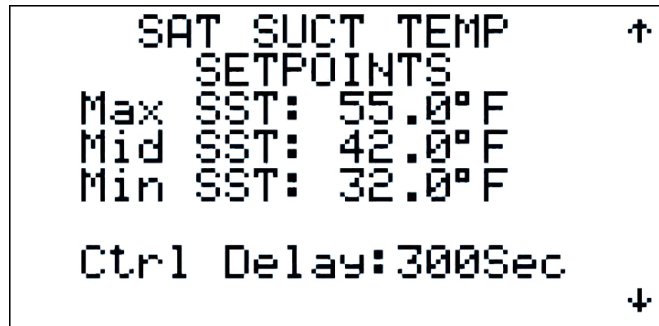
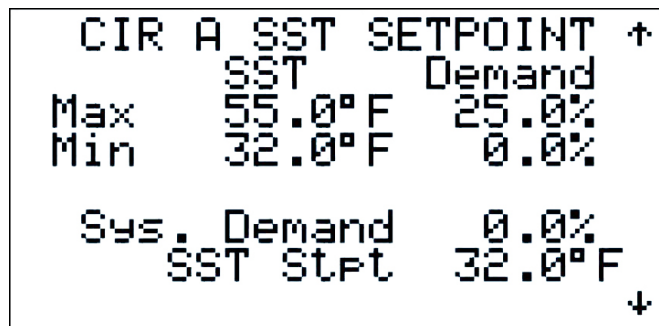

Figure 77
Figure 78
2.3.3.2.5 Capacity Control Settings (Figures 77 - 81)
Selecting CAP-CNTL SETTINGS from the Tuning Menu displays the SAT SUCT TEMP SETPOINTS screen shown in Figure 77. There are three setpoints settable on this screen, the maximum, minimum, and middle saturated suction temperature setpoints. As demand increases the unit will move from the maximum saturated suction temperature setpoint towards the minimum with a reset occurring as each compressor comes on within the system. At the
Pressing the **DOWN** key will display the CIR A SST SETPOINT screen shown in Figure 78. The maximum and minimum saturated suction temperature setpoints on this screen come from the values set on the screen of Figure 77, but can be adjusted per circuit on the screen of Figure 78. The associated system demand is also adjustable. The system demand displayed towards the bottom is input into a scaler with the minimums and maximums set above, and the output is the saturated suction temperature setpoint used for the VPD sync PID control loop displayed at the bottom. If the unit is dual circuit, the screen of Figure 78 will be repeated for circuit B.